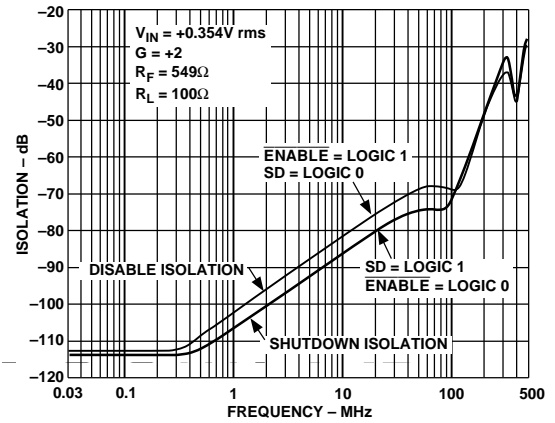

Figure 14. AD8174R Disable and Shutdown Isolation vs. Frequency
⁷AD8174 only. Shutdown (SD) pin is grounded. Mux is disabled, (i.e., $\overline{\text{ENABLE}} = \text{Logic 1}$) and all inputs are driven simultaneously with $V_{IN} = 0.354$ V rms. Output is monitored at $f = 5$ MHz and 30 MHz; $R_L = 100$ Ω . In this mode, the output impedance of the disabled mux is very high (typ 10 M Ω), and the signal couples across the package; the load impedance and the feedback network determine the crosstalk. For instance, in a closed-loop gain of +1, $r_{\text{OUT}} \approx 10$ M Ω , in a gain of +2 ($R_F = R_G = 549$ Ω , $r_{\text{OUT}} = 1.1$ k Ω) (see Figure 14).
⁸AD8174 only. $\overline{\text{ENABLE}}$ pin is grounded. Mux is shutdown (i.e., SD = Logic 1), and all inputs are driven simultaneously with $V_{IN} = 0.354$ V rms. Output is monitored at $f = 5$ MHz and 30 MHz; $R_L = 100$ Ω . (see Figure 14). The mux output impedance in shutdown mode is the same as the disabled mux output impedance.